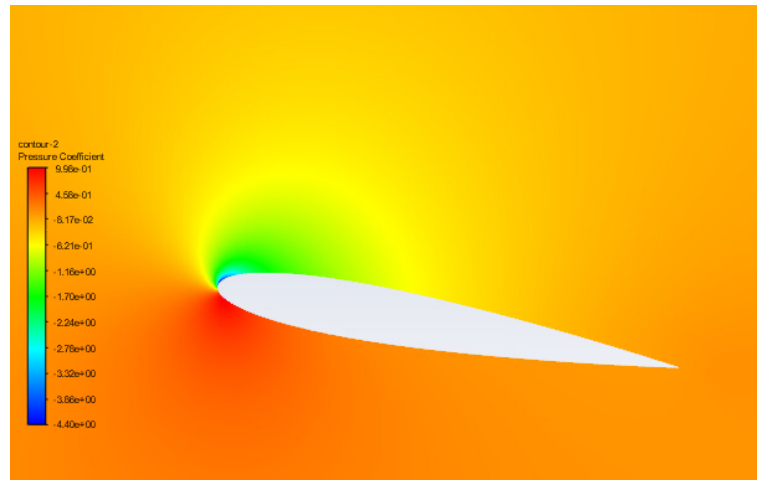

Figure 35. Pressure Coefficient contour in the vicinity of the airfoil.
6.2.4. You should see an image in the Graphics pane that looks like the one in Figure 35. Note, a pressure coefficient of 1 means the local static pressure is equal to the total pressure of the flow at the inlet (here, “total pressure” is the sum of the static and dynamic pressures). Whereas a pressure coefficient of zero means that the local static pressure is equal to the dynamic pressure of the flow at the inlet.